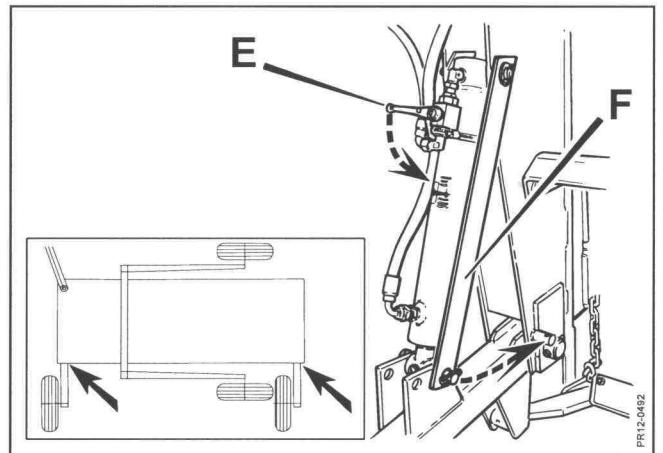

Fig. 3-10
- Fig. 3-10 8) LOCK FOR WORKING WHEEL IS REMOVED IN THE LEFT AND RIGHT SIDE.**